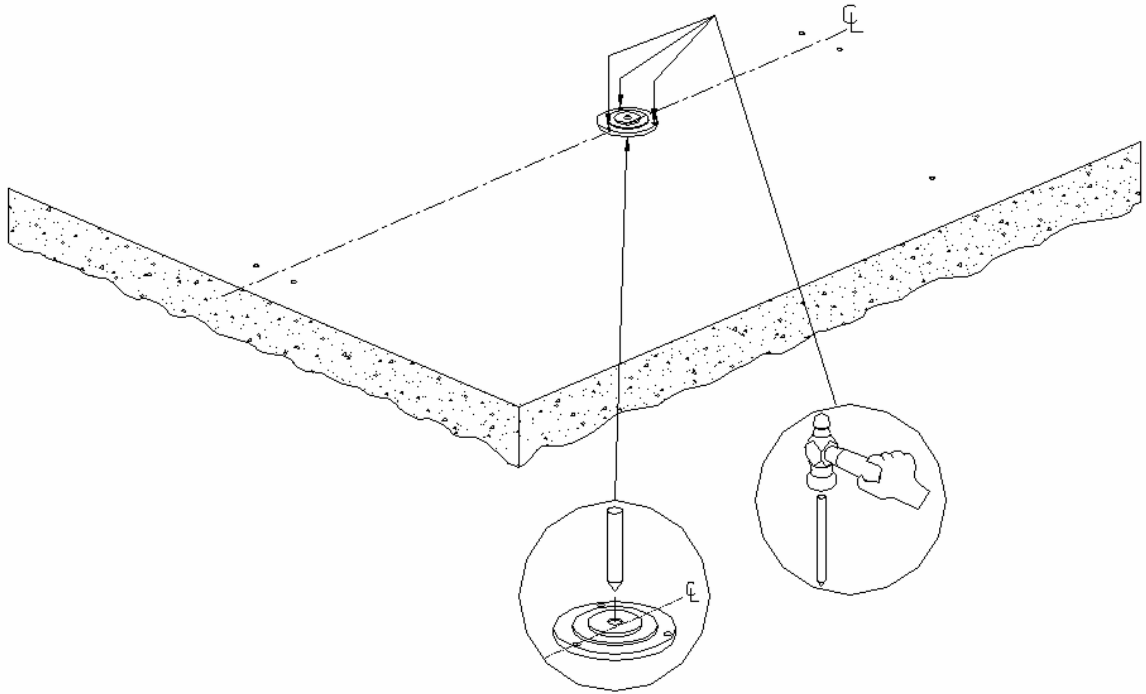

Figure 5
7. Locate the position for the bottom plate by centering the hole with the mark made in #6 above. Rotate the bottom plate so that one of the three mounting holes also aligns with the center line reference on the barrier post side. Firmly holding the bottom plate mark three 1/2" holes with the 1/2" center punch to the floor. See Figure 5.